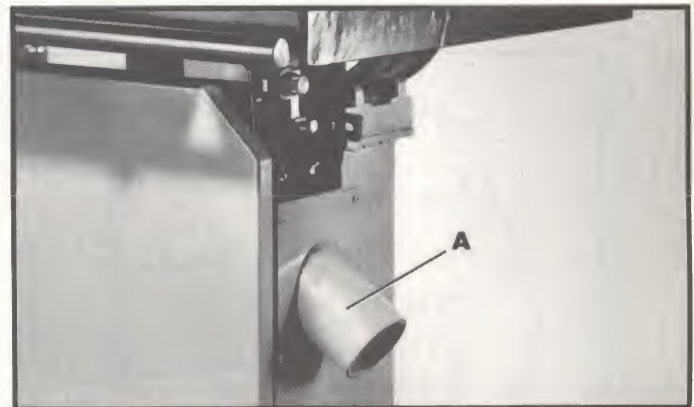

Fig. 28
A dust chute (A) Fig. 28, is supplied with your machine and can easily be connected to a dust collection system. The opening of the dust chute is 3" in diameter.